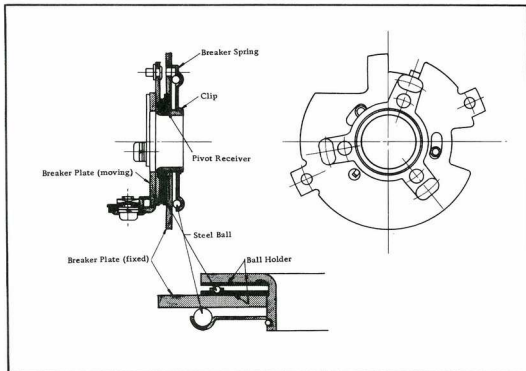

Fig. EE-88 Breaker Plate Collecting Part Mechanism
- (a) As shown by Fig. EE-88, moving side of breaker plate is supported by three steel balls for each up and down side. Do these balls work smoothly?
- (4) When contact breaker is disassembled, take off clip in Fig. EE-88 to disconnect breaker plate (fixed) putting down breaker plate moving.